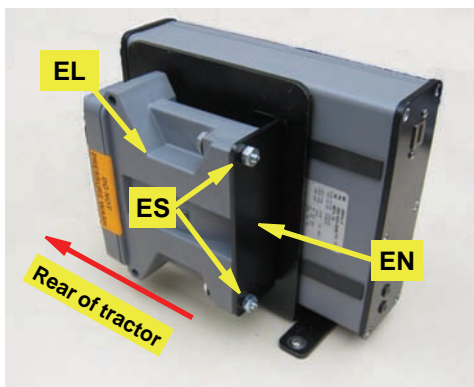

Figure 1d: Installed steering controller
- e. Using hardware **ES**, attach steering controller **EL**, connectors rearward, to its bracket **EN** (Figure 1d).